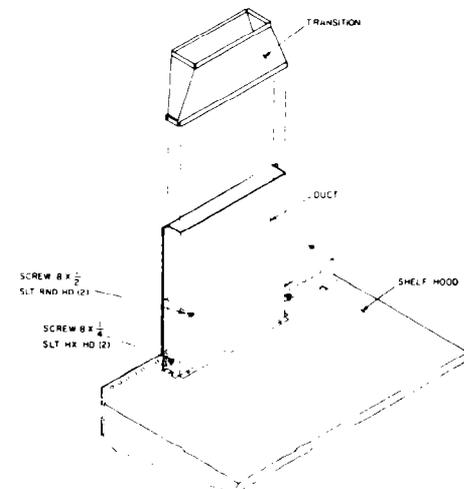

Figure 9
B. Mark and drill (2) 1/8" dia. holes (1 each side) to fasten the thin duct provided with the hood to the back wall. See Figure 9.